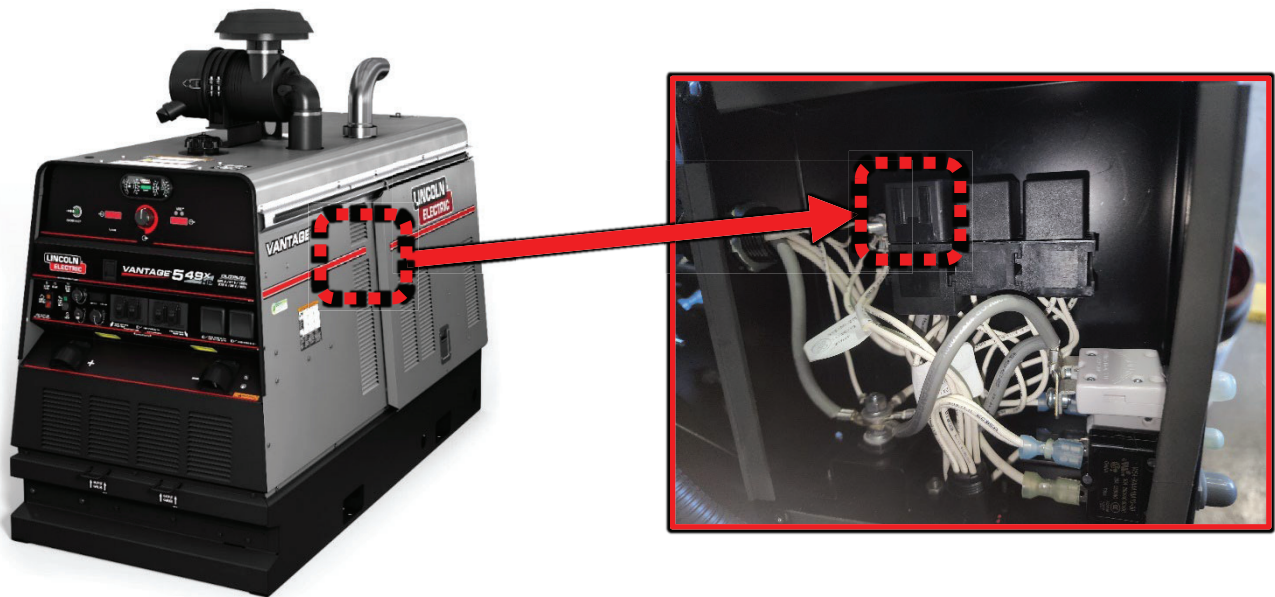

Figure F.1
1. For location of the Glow Relay refer to Figure F.1.